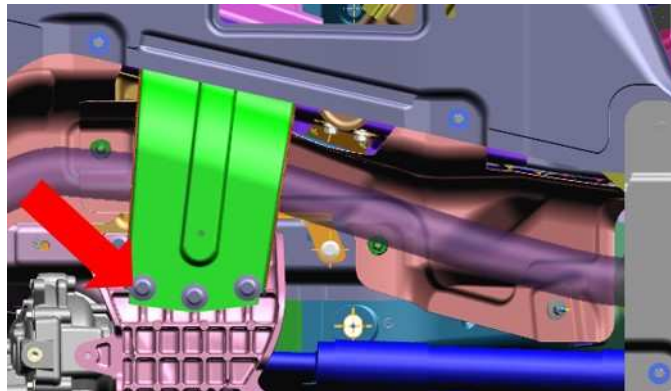

Fig. 2
3. Remove the cross member (Fig. 2) .
1. Install the cross member (Fig. 2) . Tighten to 55 N·m (486 in. lbs).